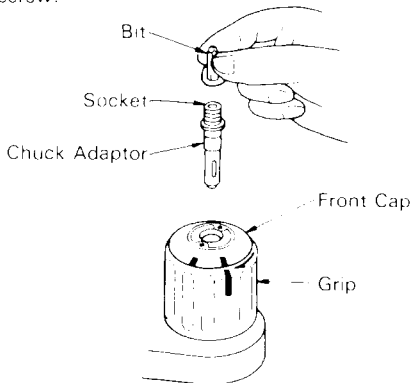

Fig. 15
6. When driving machine screws (Fig. 15)
7. When driving wood screws (Fig. 15)